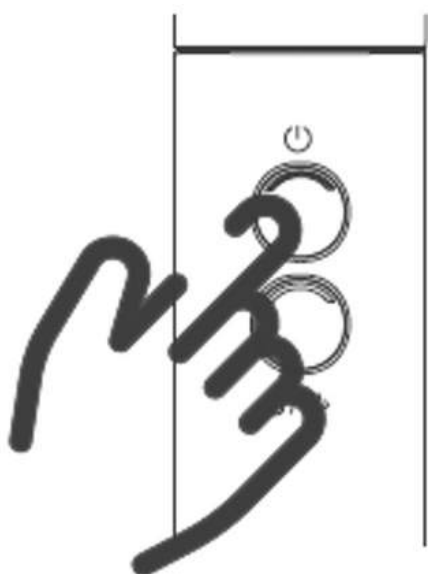

Fig. 27
4. Press the switch button and then start to perform descaling (see Fig.27).